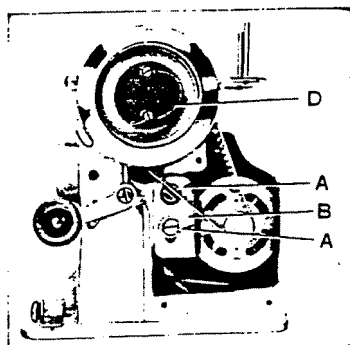

Fig. 38
3. To adjust "V" belt loosen screws (A) Fig. 38 and move bracket (B) up to loosen belt and down to tighten.
- A. Place bobbin winder in off position, see Fig. 38.
- B. Loosen screw (A) Fig. 38 and move bracket (B) to its highest position.